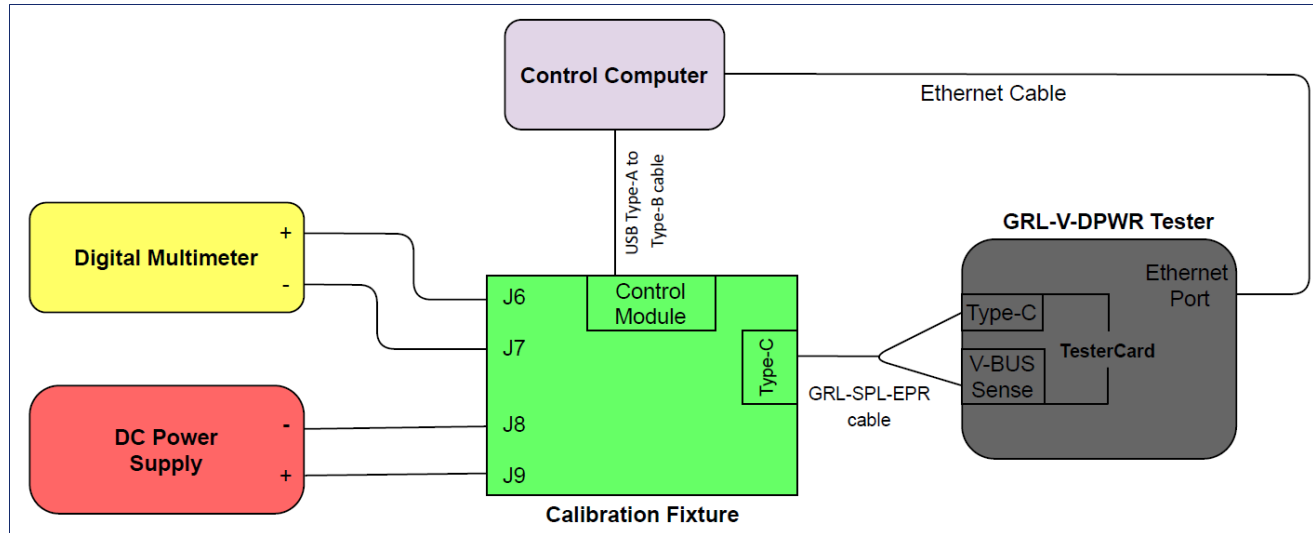

Figure 11. Connection Setup for GRL-V-DPWR Manual Sink Port Verification for Voltage Measurements
This section describes the connection diagram to set up the equipment and fixture for manual sink port verification for voltage measurements. Set up the hardware connection as shown in Figure 11 below.
1. Set up the hardware connection as shown in Figure 11.